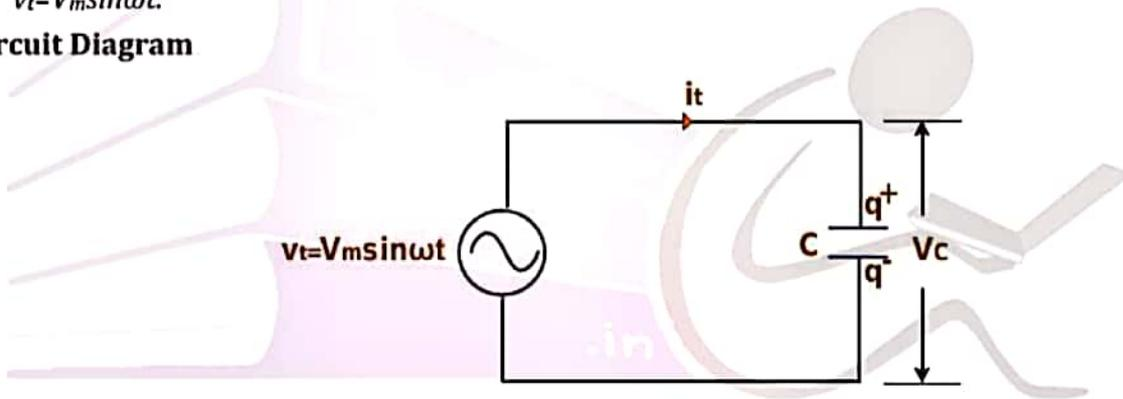

Figure 2.19 Pure Capacitor Connected AC Supply
- The Fig. 2.19 shows a capacitor of capacitance C farads connected to an a.c. voltage supply $v_t = V_m \sin \omega t$.
- As show in the Fig. 2.19 voltage source